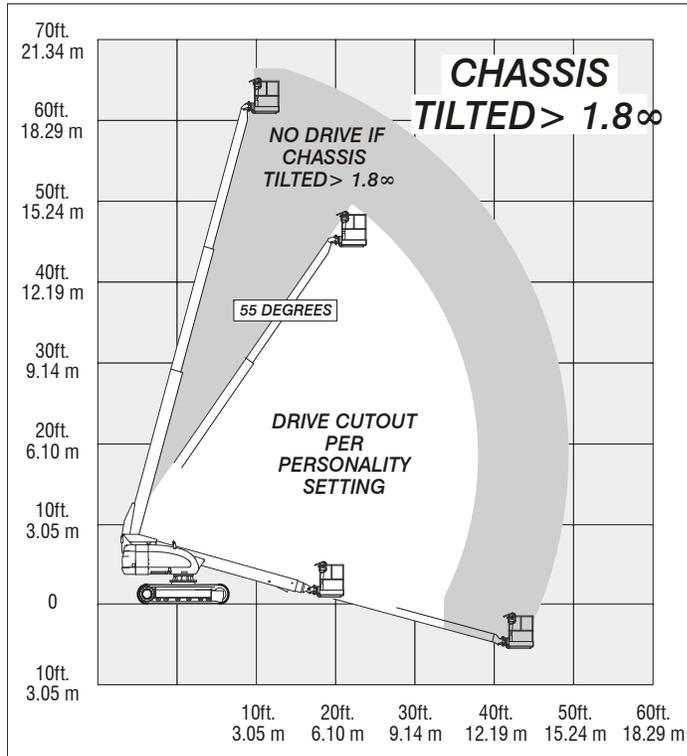

Figure 2-2. Drive Function Operating Range Diagrams - Sheet 2 of 3
4. Drive Disable Switch (Refer to Figure 2-2., Drive Function Operating Range Diagrams - Sheet 2 of 3).